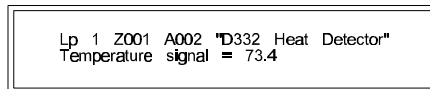

Figure 28: Address Information Display
- Select Option 4) Alarm Thresholds. The display will show the current alarm setting and display the default setting in brackets. Press **Yes** to accept the current setting. Press **No** and follow the prompt to change the setting. The display will show the current pre-alarm setting and display the default setting in brackets. Press **Yes** to accept the current setting. Press **No** and follow the prompt to change the setting. Press **Enter** to complete changes. Press **No** to return to the Configure Submenu for this circuit. Use the “>” and “<” keys to move up and down the addresses on this circuit. A typical heat detector display is shown in Figure 28. This display indicates that on Circuit (Loop) One, Zone One, at Address 002, a D322A Heat detector is reporting a temperature of 73.4°F (23°C).